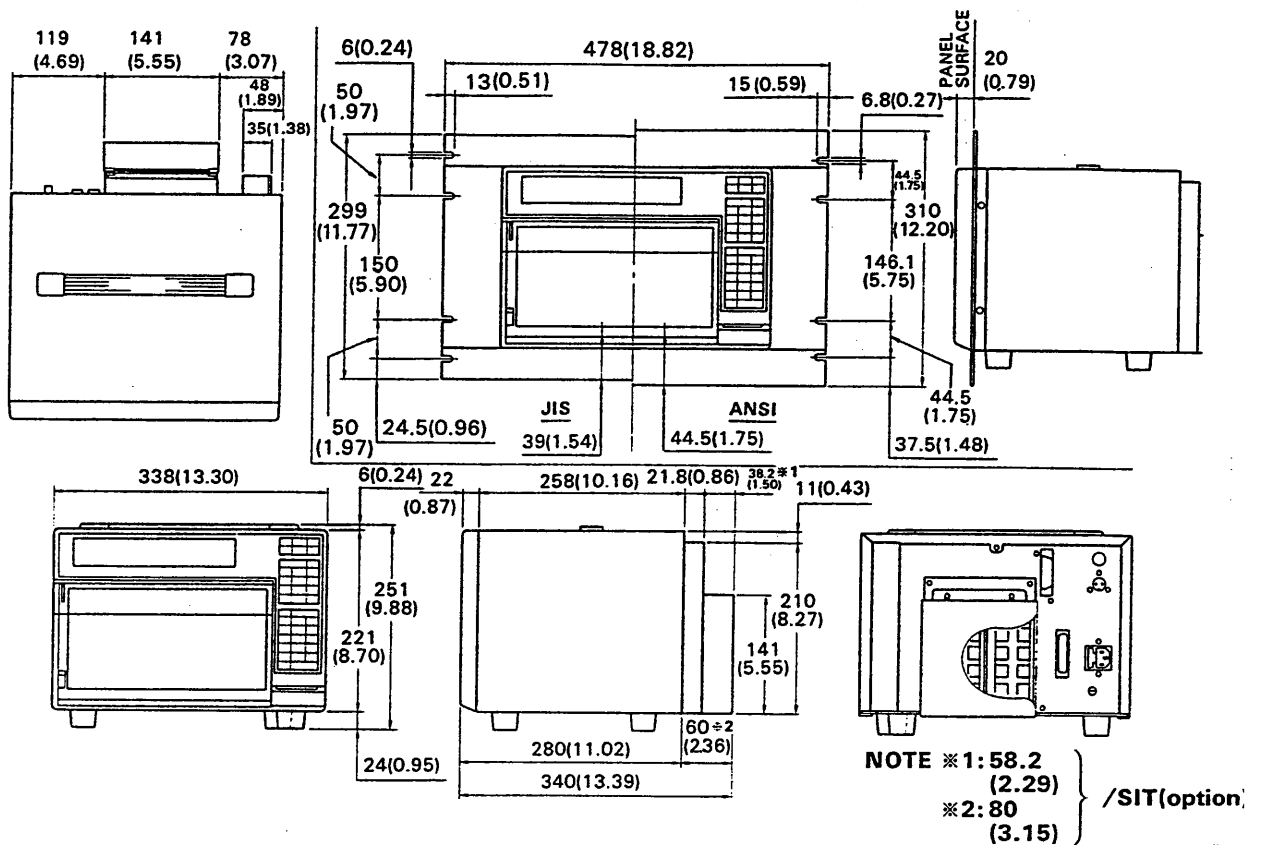

Figure 4.1 HR1300 External Dimensions and Rack Mounting
- 3) Figure 4.1 shows the external dimensions and rack mounting dimensions for the HR1300.